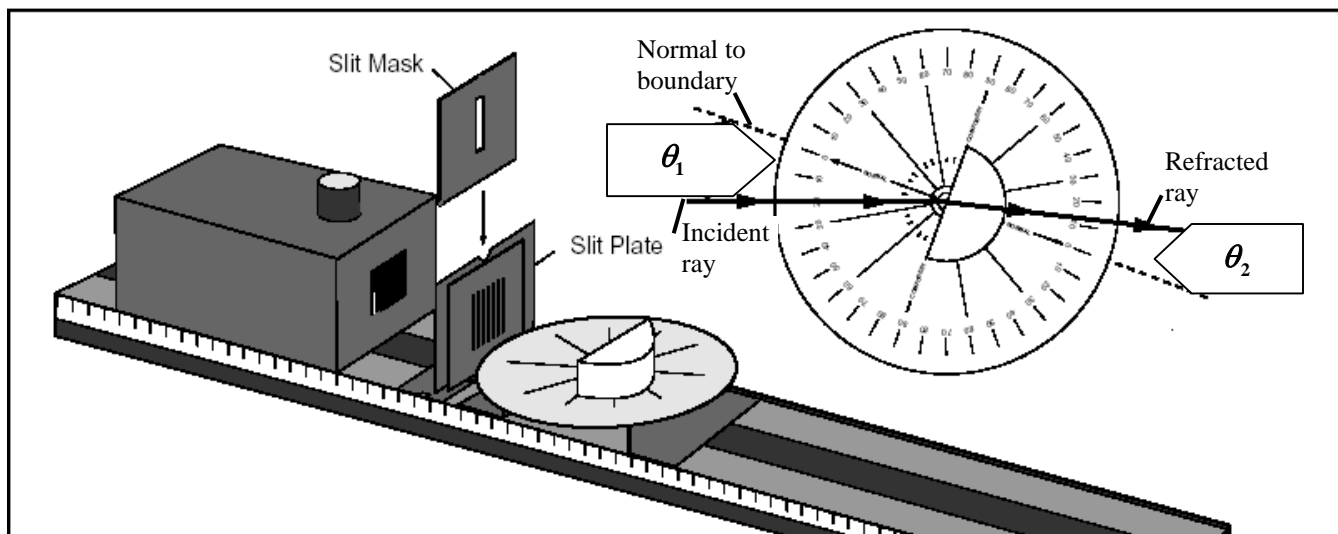

Figure 1 Experimental set-up for determining the index of refraction of acrylic, and the first part of testing for reversibility.
The angles θ_1 and θ_2 are the angles that the incident ray of light and the refracted ray of light make with the *normal* to the boundary between the two media, respectively (see the inset in Figure 1). The subscripts one and two refer to the medium on either side of the boundary. In the first part of the experiment θ_1 is the incident angle, and the medium is air. Recall that the speed of light in air is very nearly equal to c , the speed of light in vacuum. So we see that the index of refraction for air is nearly one, and you will use $n_1 = 1$ when the incident ray is in air. In this experiment you will determine the index of refraction for the acrylic Cylindrical Lens. You will address the question of reversibility by testing whether Snell's Law holds regardless of whether the light passes from air to acrylic, or from acrylic to air.
1. Set up the equipment as shown in Figure 1. Adjust the components so a single ray of light passes directly through the center of the Ray Table Degree Scale. Align the flat surface of the Cylindrical Lens with the line labeled “Component” on the Ray Table. With the lens properly aligned, the radial lines extending from the center of the Degree Scale will all be perpendicular to the circular surface of the lens and the incident ray will lie directly on the arrow labeled **NORMAL**. The angle of incidence is now 0° . Make a data table in your lab journal similar to Table 1. Record the resulting angle of refraction in your table in **two** columns: θ_2 under the heading “Light Ray Refracted into Acrylic” and θ_1' under the heading “Light Ray Refracted into Air”. Without disturbing the alignment of the lens, rotate the Ray Table and set the angle of incidence to 10° . Record the angle of refraction in the two columns, as you did for 0° . Continue carefully rotating the Ray Table to each of the angles of incidence listed in Table 1, and recording the resulting angle of refraction in the two columns of your data table.